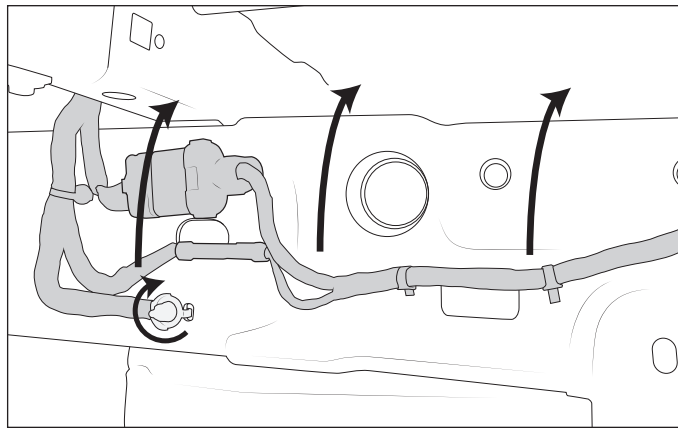

Figure 31
- A. Unclip the zip ties from the frame so the harness can be moved above the frame rail. Loosen the bolt on the ground and rotate 90 degrees then tighten back down, the small tab can be bent to sit flush on the frame rail (fig. 31).